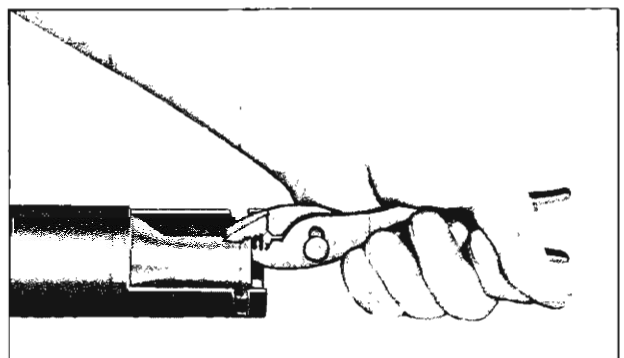

Fig. 22—Removing Lower Spacer
7. Using a pair of pliers, remove lower spacer (fig. 22).